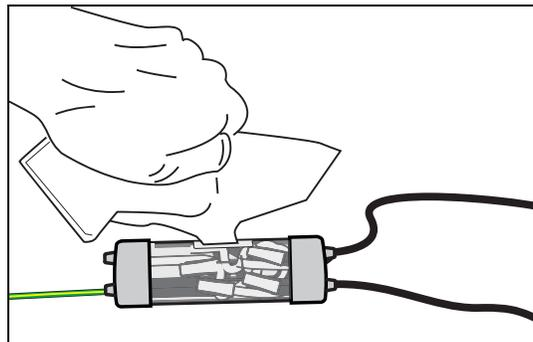

Figure 20. Pouring Sealing Compound Into Sleeve
6. Once the mixture feels warm, immediately cut one corner and slowly fill the I.S. circuit protector's plastic sleeve [Figure 20]. Stop just short of filling the entire sleeve. **Do not overfill!**